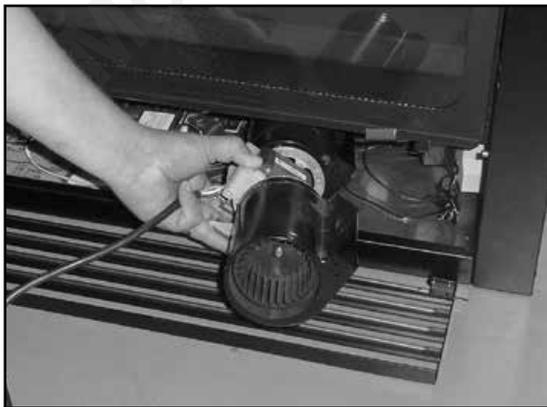

Figure 3 Insert the Fan into the Appliance (avoiding wires)
- Insert the fan into the appliance with the air slots up. Insert the end first to the right side of the valve assembly. Be sure to avoid pulling any of the wires out of place. See Figure 3.